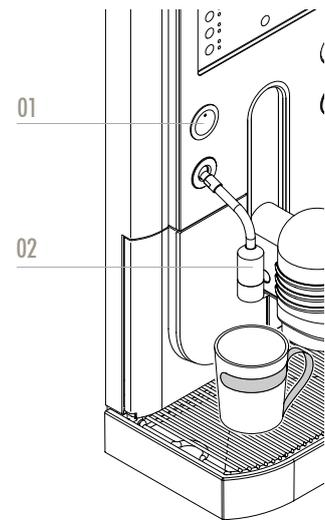

Figure 3
4. To serve two cups at once, place the two cups beneath the coffee/mixer outlet (Fig. 3). Press the product key twice in quick succession (within 1 second).